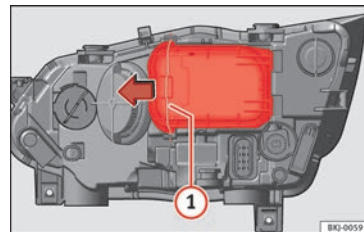

Fig. 96 In the engine compartment: remove the lid.
- Move the loop »» Fig. 96 **1** in the direction of the arrow and remove the cover.